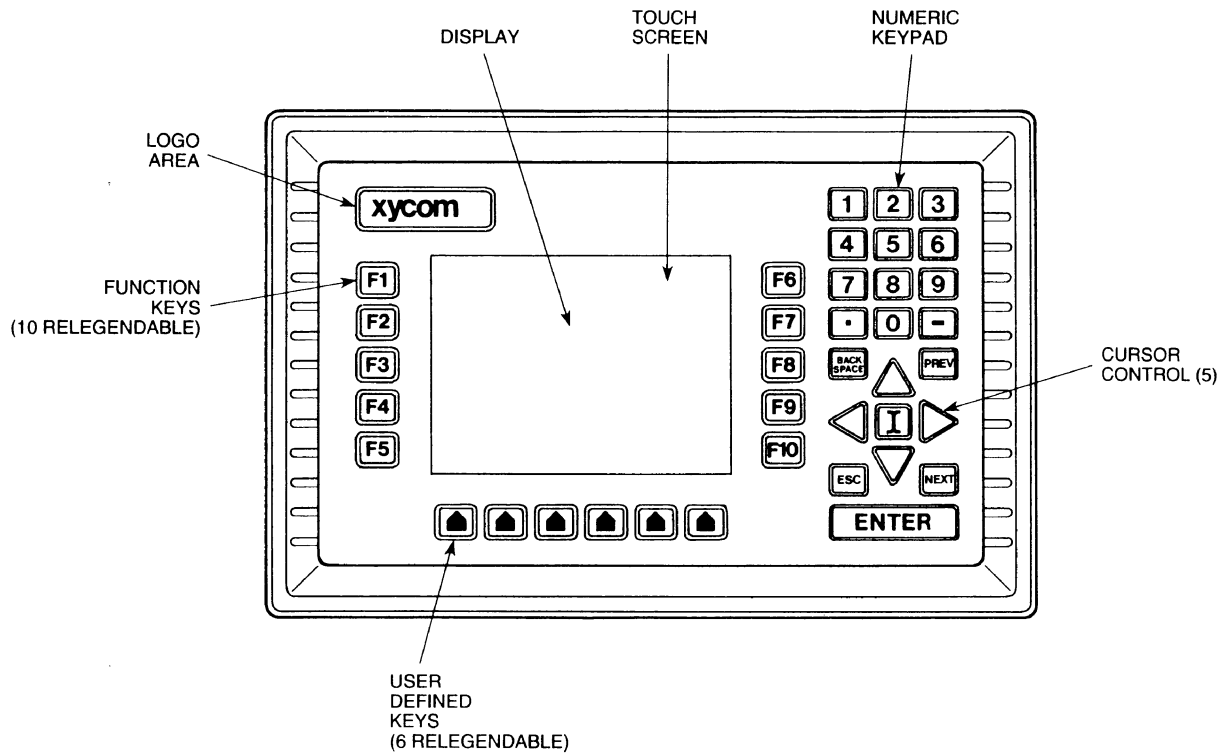

Figure 1. Front Panel
The purpose of data entry keypads are for entering data and moving the cursor. The full numeric keypad includes five cursor control keys, several global function keys, and the Enter key. Refer to Figure 1.
- *Figure 1, page 2-3* - Front View